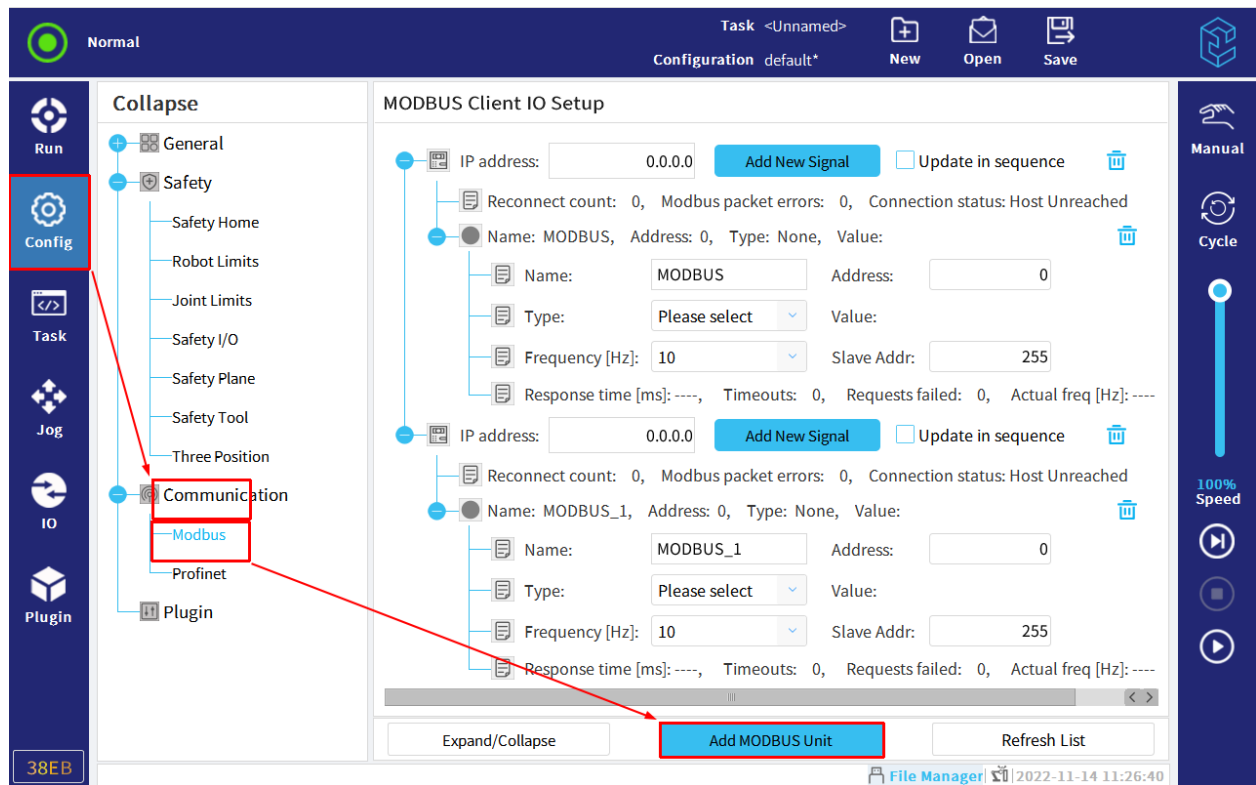

Figure 11-35 Modbus
1. Click “Config > Communication > Modbus” to enter the "MODBUS Client IO Setup" interface, as shown in Figure 11-35.